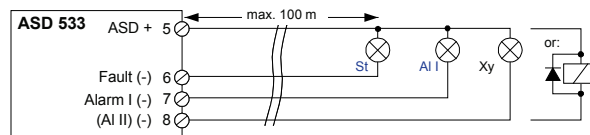

Fig. 40 Interconnecting the OC outputs
- When connecting inductive consumers (e.g. relays), a free-wheeling diode is to be installed directly at the consumer, **Fig. 40**.